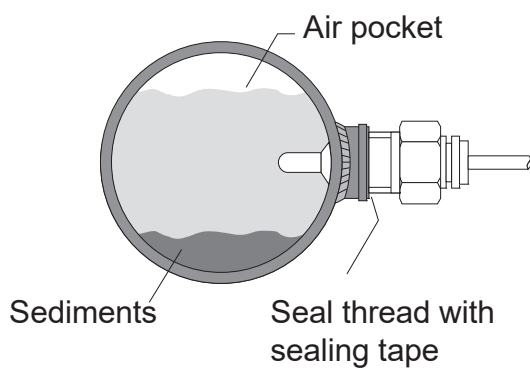

Fig. 2a: Lateral mounting
- Install the flow monitor in the pipeline prepared according to section 3 (see also Fig. 2a+b).
- With lateral mounting, air pockets and deposits can hardly lead to impairments if the measuring probe is completely surrounded by the medium (Fig. 2a).